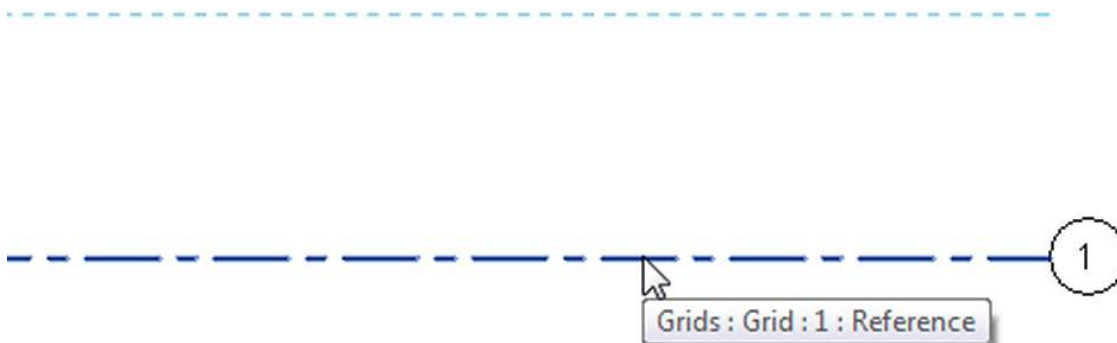

Fig. 1.18 – Grid Line Offset.
12. When you see the dashed blue line above the Grid 1(Fig. 1.18), click.